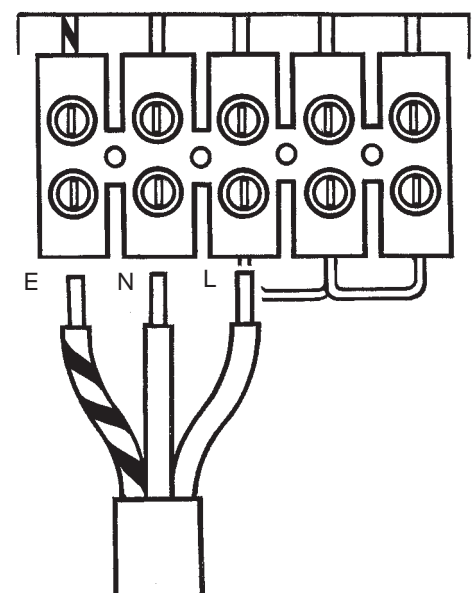

Figure 11 - terminal block
3. Connect the mains supply cable to the terminal block on the hob using the following colour code (Figure 11):